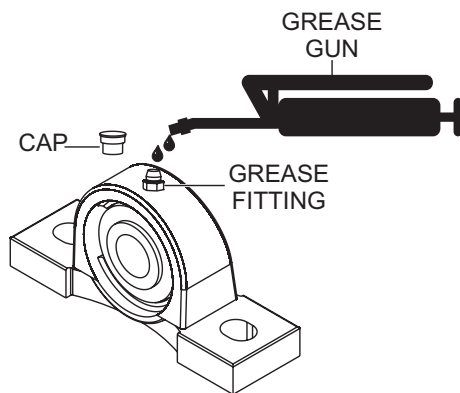

Figure 10. Bearing Lubrication
1. Each truss section has a set of pillow block bearings (Figure 10) that will require lubrication. Always make sure that the bearings are lubricated before each use of the screed. See the maintenance section in this manual for bearing lubrication intervals..